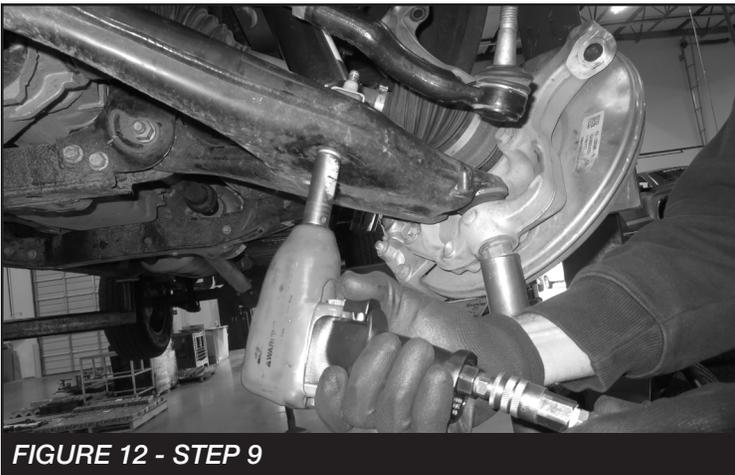

FIGURE 12 - STEP 9
9. Install the lower coilover bolts, torque to 37 ft-lbs. Next reinstall the tie rod and upper ball joint to the knuckle. Torque to 28 ft-lbs **SEE FIGURE 12**